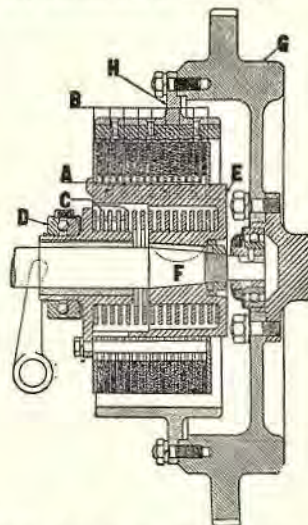

Fig. 7. The Cadillac disk clutch—dry type.
Fig. 7 illustrates a dry disk type of clutch used on the Cadillac. The driving disks (A) are covered on both sides with a friction material, composed largely of asbestos, and are driven by six keys in the clutch ring (H) which is bolted to the engine fly wheel (G).
Fig. 7 shows the location of the transmission when used with a double-chain drive and a dead rear axle.